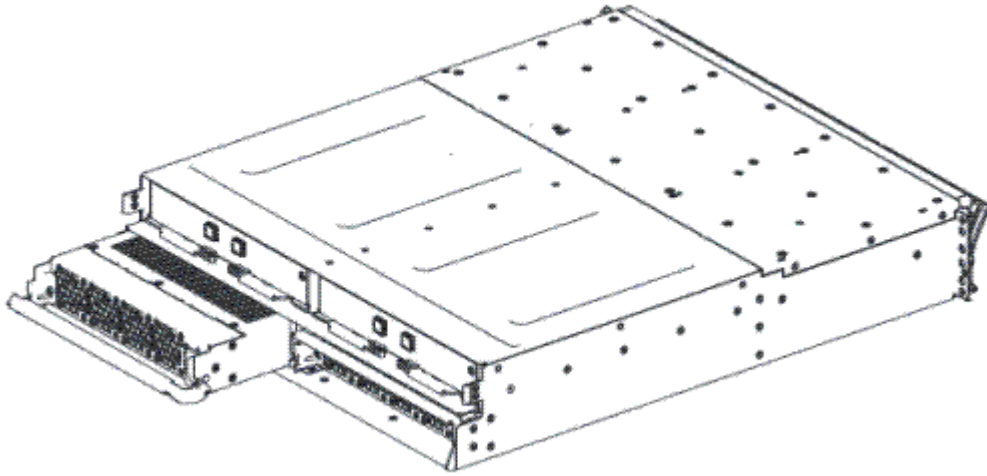

Figure 73. Removing the power supply unit from the left side of the enclosure
7. Using the handle, gently slide the power supply out of the enclosure, as shown in Figure 73 on page 116.